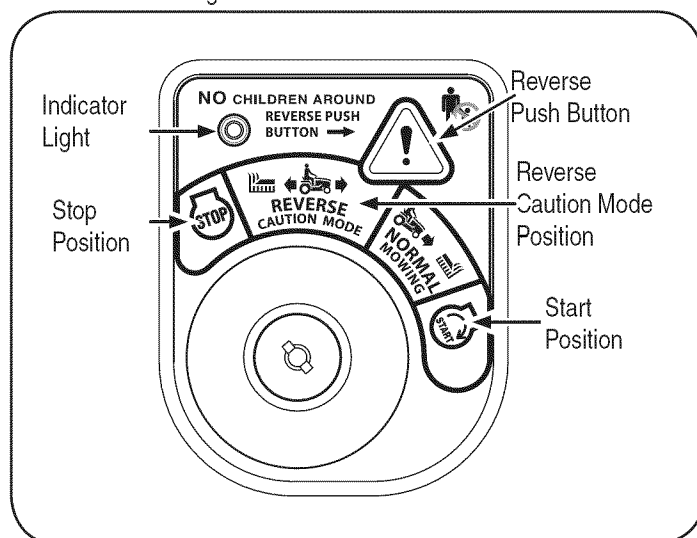

Figure 8
2. Turn the key from the NORMAL MOWING (Green) position to the REVERSE CAUTION MODE (Yellow) position of the key switch module. See Figure 8.
3. Press the REVERSE PUSH BUTTON (Orange, Triangular Button) at the top, right corner of the key switch module. The red indicator light at the top, left corner of the key switch module will be ON while activated. See Figure 8.